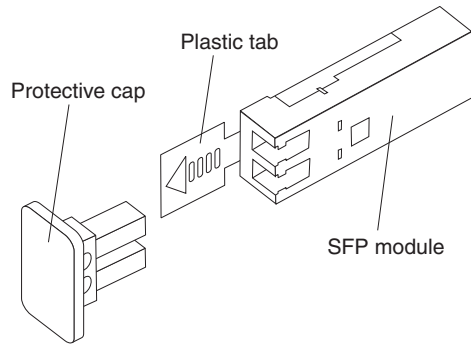

Figure 23. SFP module and protective cap
2. Remove the protective cap from the SFP module, as shown in Figure 23 on page 38. Save the protective cap for future use.
2. If necessary, remove the protective cap from the SFP module, as shown in Figure 23 on page 38. Save the protective cap for future use.